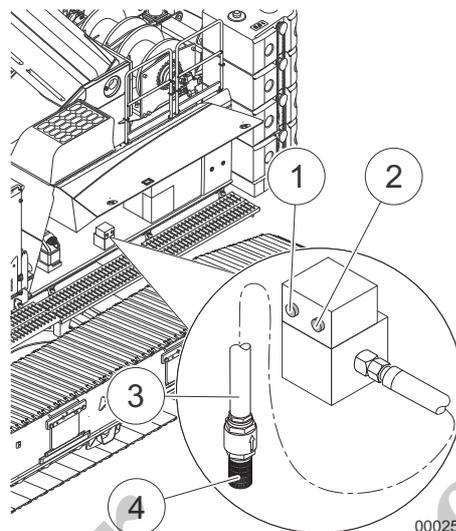

Fig. 98 Cover and wide-mesh screen of the filler neck
| 6 | Remove the fueling hose (3) in Fig. 98 from the bracket. |
| 7 | Check the intake filter (4) in Fig. 98 for contamination and damage, clean or replace as needed. |
| 8 | Attach the fueling hose (3) in Fig. 98 to the suction connection on the fuel pump and insert it into external fuel tank. |
| 9 | Press the green button (1) in Fig. 98. <ul style="list-style-type: none"> – The tank is filled. The refueling pump switches off automatically when the tank is full. |
Pressing the red button (2) in Fig. 98 interrupts the refueling process.